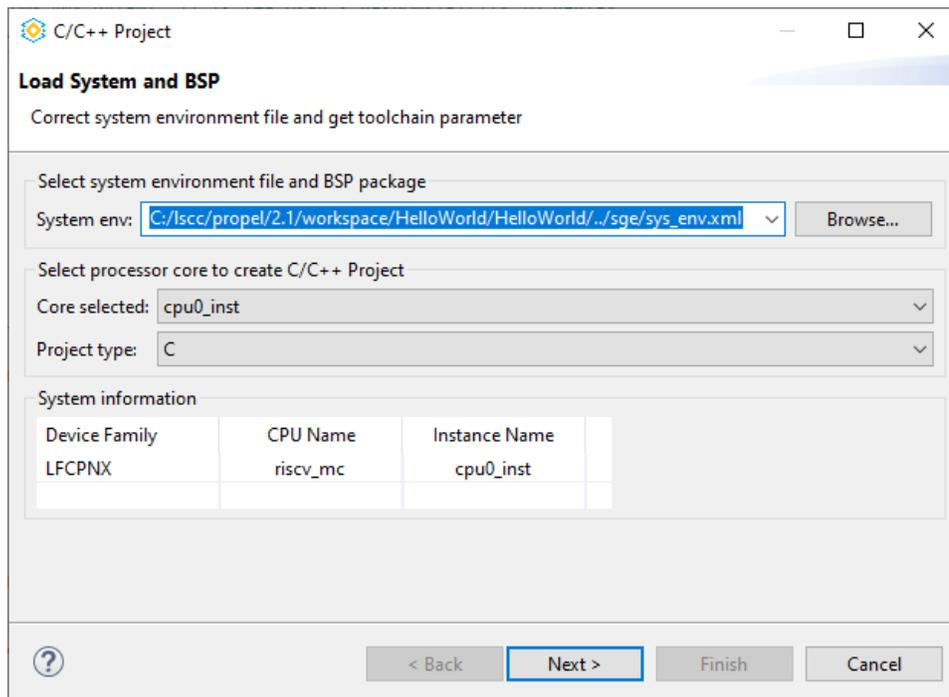

Figure 2.63. Propel SDK GUI and C/C++ Project Wizard
2. Click **Launch**. Propel SDK GUI opens and the C Project wizard (Figure 2.63) pops up for loading the system and the board support package (BSP) to create a C/C++ project.